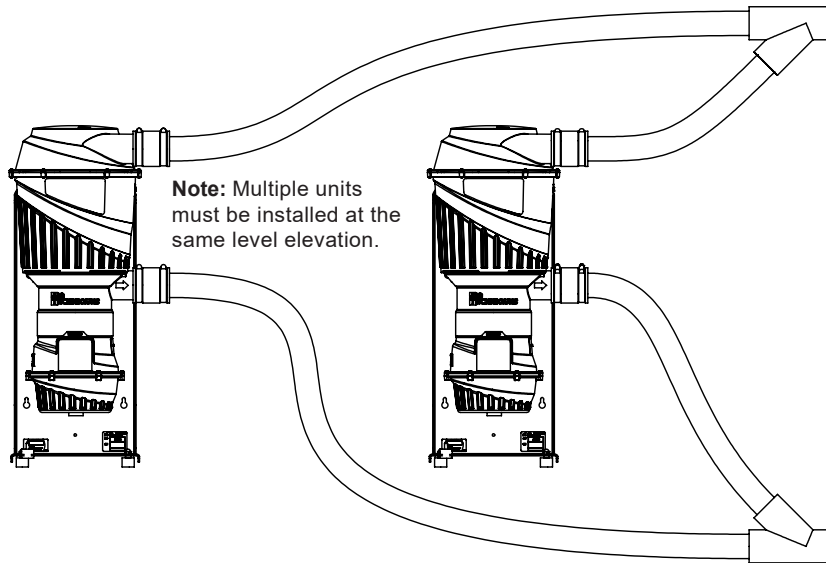

Figure 7. Hose Connections for Parallel Installations
Installation of two (2) or more Acadia Plus units require that all units are mounted/fixd at the same elevation with respect to one another. Do not install multiple Acadia Plus units at different heights as this can result in unequal distribution of solids and more frequent cartridge replacements than the other units(s). Parallel connections are shown by Figure 7.
Refer to Figure 7 and install the Collection Container as follows.